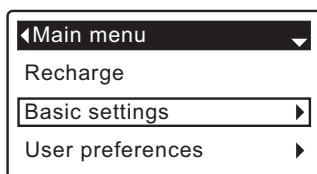

FIG. 36
1. From any of the rolling status screens, press the SELECT (O) button to display the **Main menu**.
2. Press the DOWN (▼) button to scroll through the menu options until **Basic settings** is highlighted (See Figure 36).